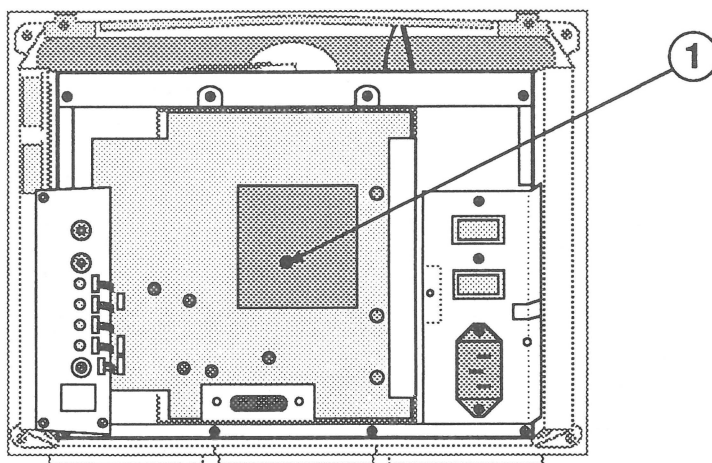

FIGURE 13
7. If you could not adjust horizontal convergence in the previous step, turn off monitor power and remove the monitor cover, the EMI shield, and the metal video board shield. Then locate the other H-STAT control (Figure 13, #1) beneath the plastic cover on video board "C." Insert an insulated screwdriver or tweaker through the access hole in the plastic cover, and turn the H-STAT control until the color-shadowed vertical lines of the pattern blend to solid white lines.